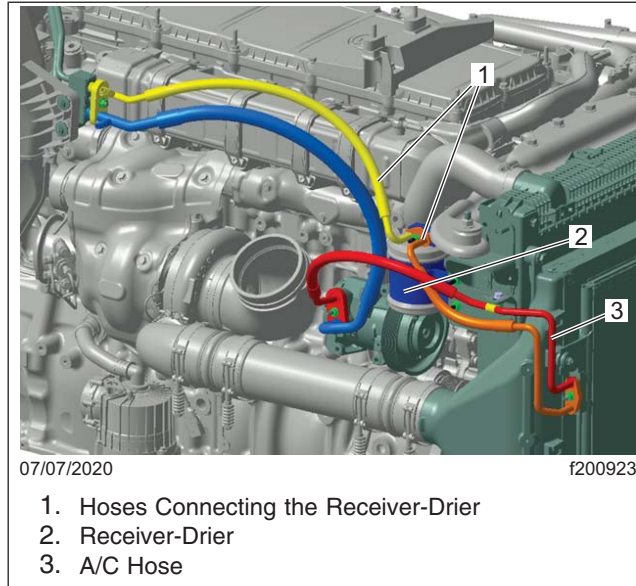

Fig. 8, Receiver-Drier
16.1 Remove the receiver-drier and upper A/C hose mounting nuts, then free the receiver-drier. See Fig. 8.
- 4.2 Position the receiver-drier and upper A/C line on their respective brackets, and install the mounting nuts. Tighten the nuts 14 to 16 lbf·ft (19 to 22 N·m). See Fig. 8.